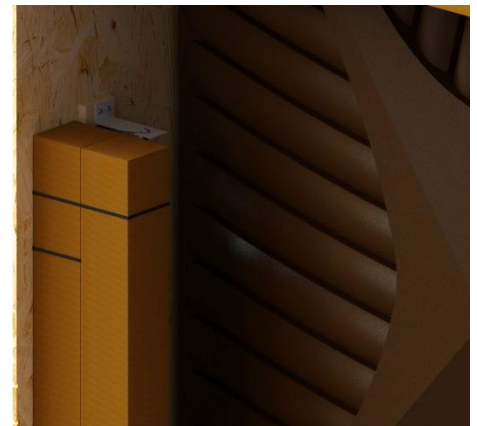

Figure 27
- 5) Use scissors or a utility knife to cut the four cable ties holding the sleeve boxes (2 boxes per side) and discard the cable ties. (Figure 27)
- 6) Remove the four sleeve boxes from the crate and place them in a safe place. (Figure 27)